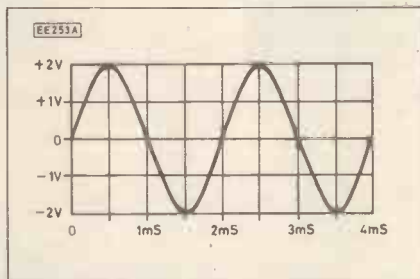

Fig. 1.17. Waveform for Problem 1.13.
1.13 Determine the peak to peak value and frequency of the waveform shown in Fig. 1.17. (e)